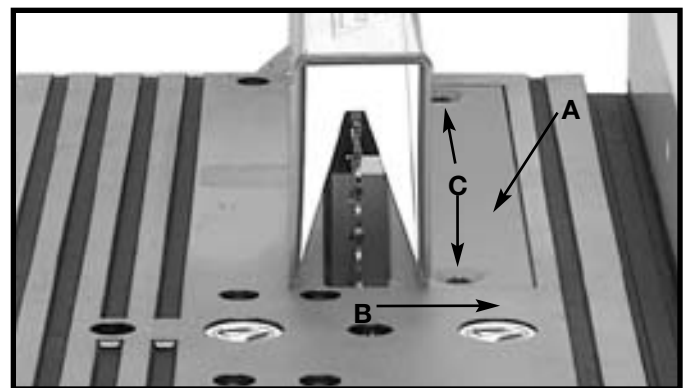

Fig. 33A
1. Make sure that the table insert (A) Fig. 33A, is flush with, or slightly below, the surface of the table (B).
2. If the table insert is above the surface of the table, tighten the two table insert screws (C) Fig. 33A to lower the insert.